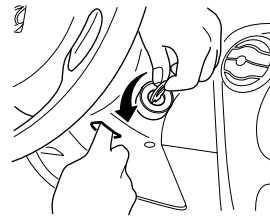

FIGURE 10
3. Place your index finger through the access hole and locate the end of the electronic park lock actuator plunger (figure 10).